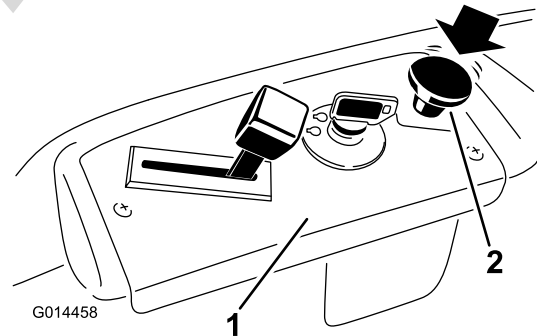

Figure 12
2. Disengage the blades by moving the blade control switch to Off (Figure 12).